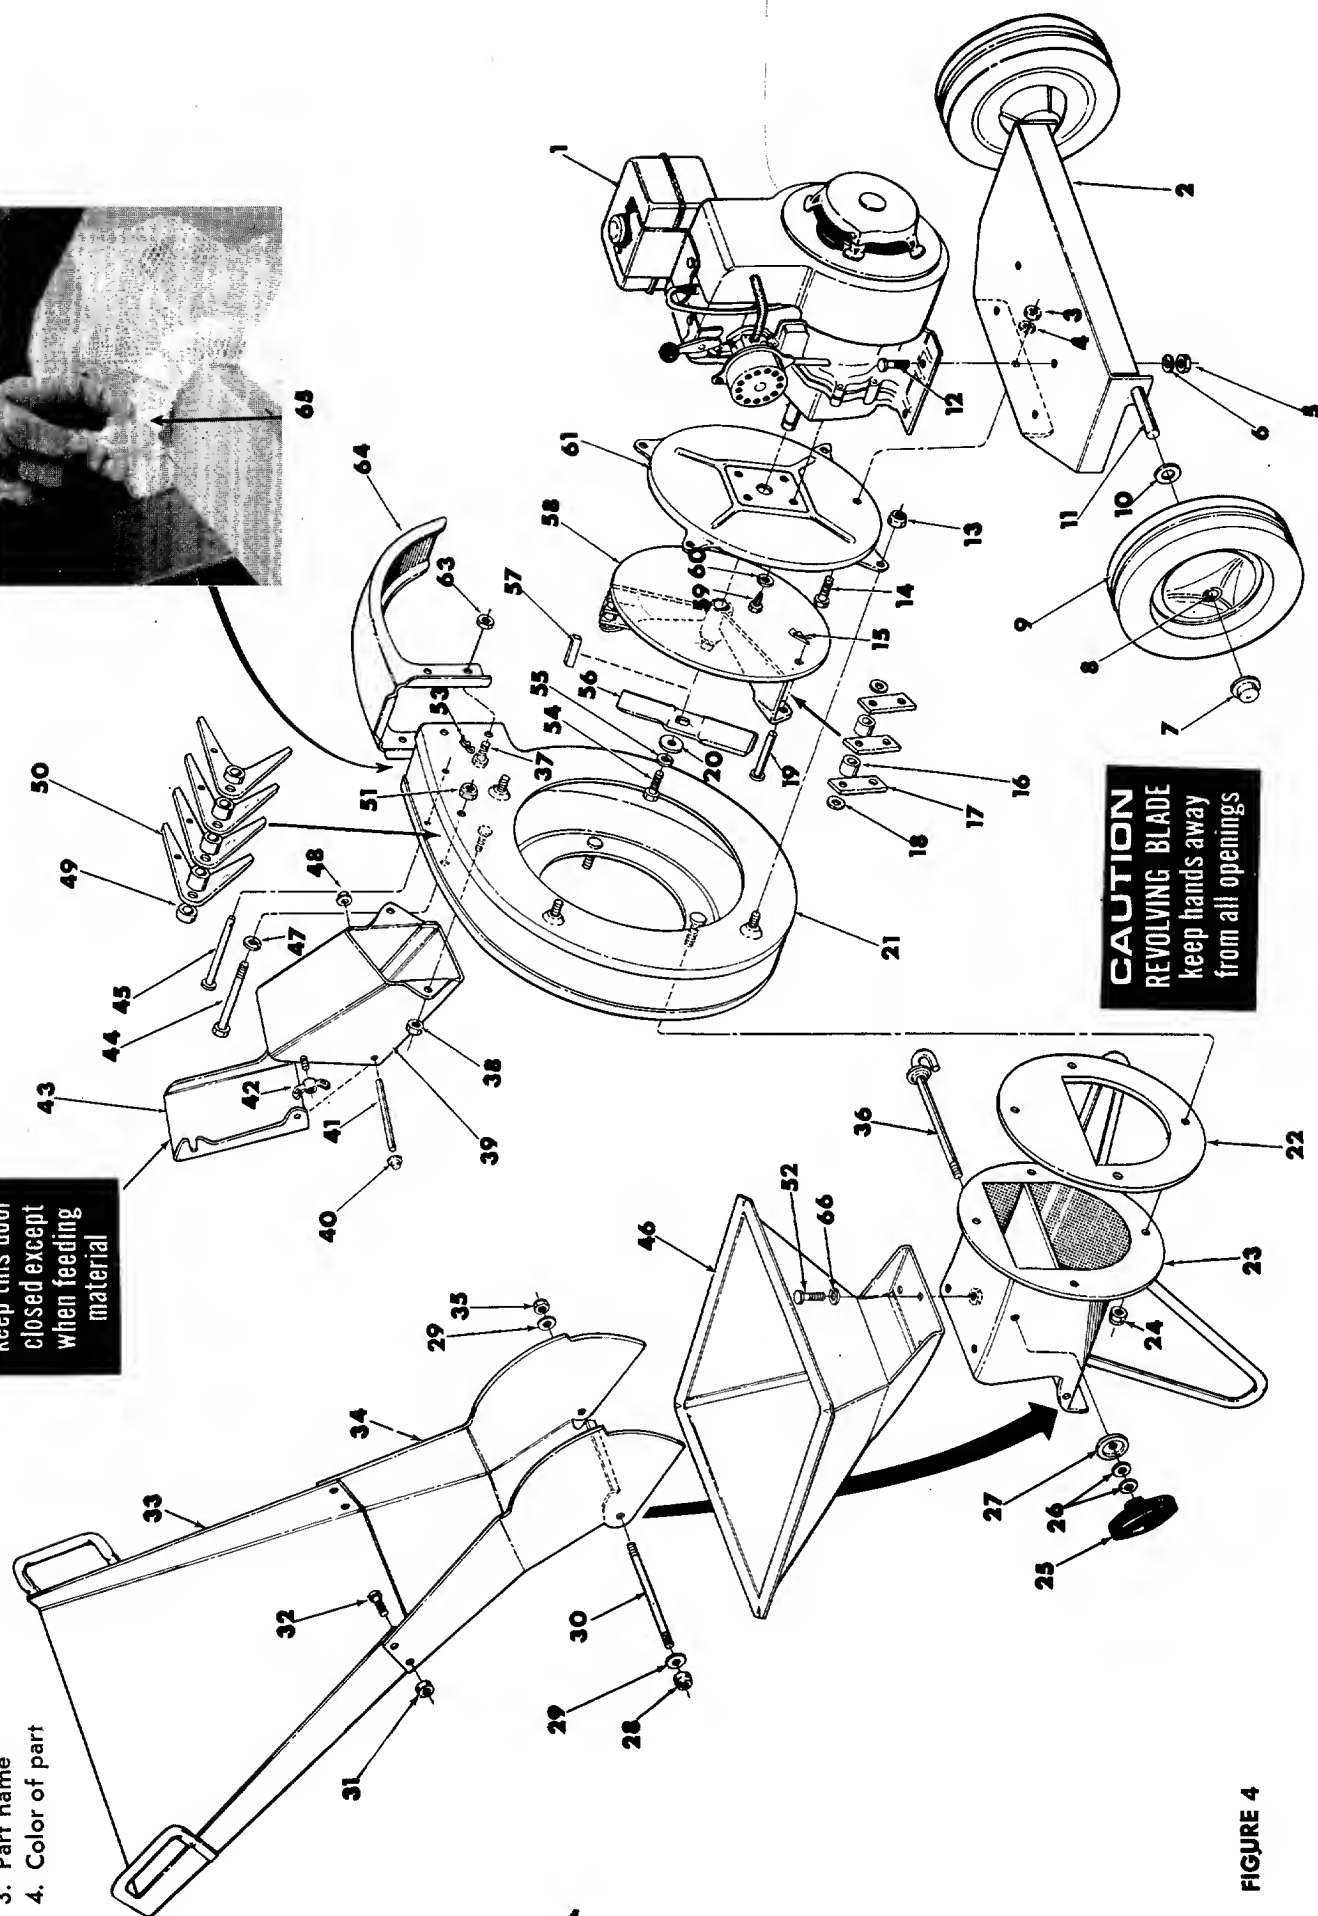

FIGURE 4
2. Remove bolt (Ref. No. 54), lockwasher (Ref. No. 55) and flat washer (Ref. No. 20) holding blade (Ref. No. 56) to engine crankshaft. See figure 4.